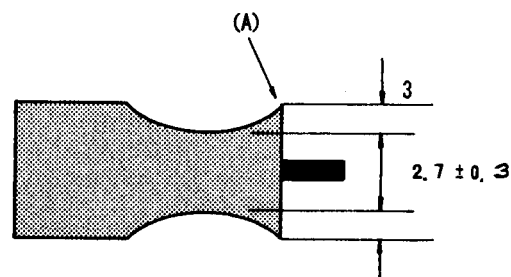

Fig. 5-2
- 9) Turn RT1 on the ATF-R jig so the waveform is shaped as shown in Fig. 5-2.
- 10) Adjust the voltage level control of the oscilloscope so that position (A) of the waveform is set to 3 graduations.